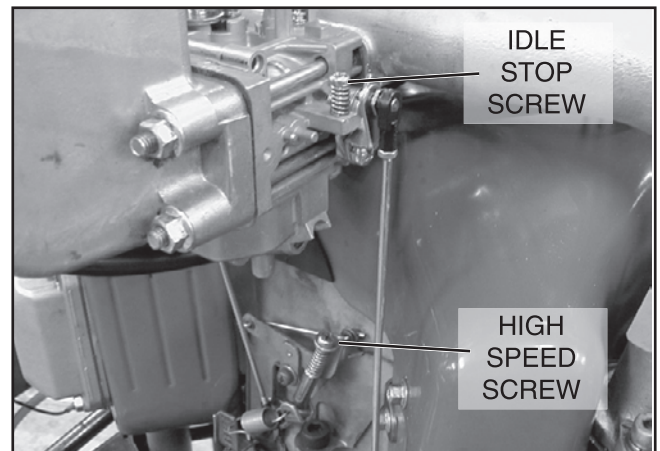

Figure 4-7. Dynamic Governor Adjustment (Earlier Version)
2. Move speed control lever to slow speed position and hold throttle lever against idle stop screw (see Figure 4-7).
4. Slowly move speed control lever to high-speed position. Do not exceed 4000 RPM (see Figures 4-7 or 4-10 depending on governor version).
5. With the speed control in the high-speed position, adjust the high-speed screw to obtain the desired engine speed (see Figures 4-7 or 4-10 depending on governor version).